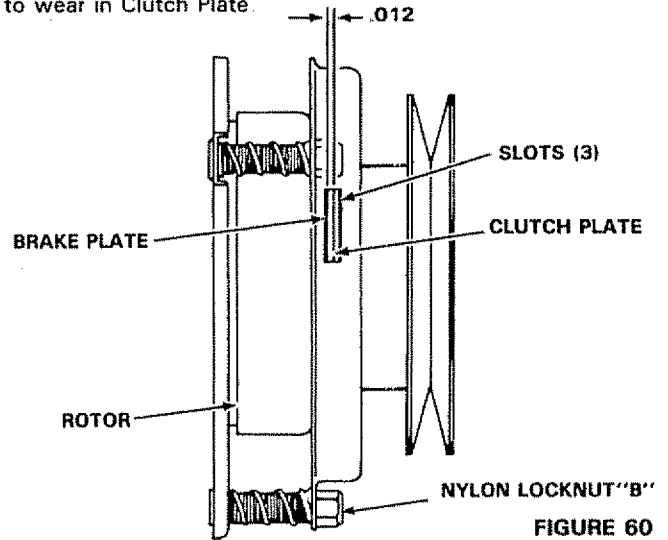

FIGURE 60
- b. Adjust the three nylon locknuts "B" until the space between the Clutch Plate and rotor measures .012 at all three slot locations cut in the side of the Brake Plate (Fig. 60).